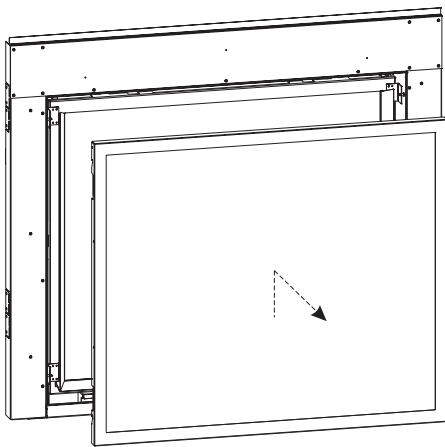

Figure 109
2. Use the Glass Latch Tool to grip the latch bar and pry it over the Glass Frame hook flanges. Tilt the Glass Frame towards you and pull upwards to remove it from the unit. **See Figures 109 and 110.**